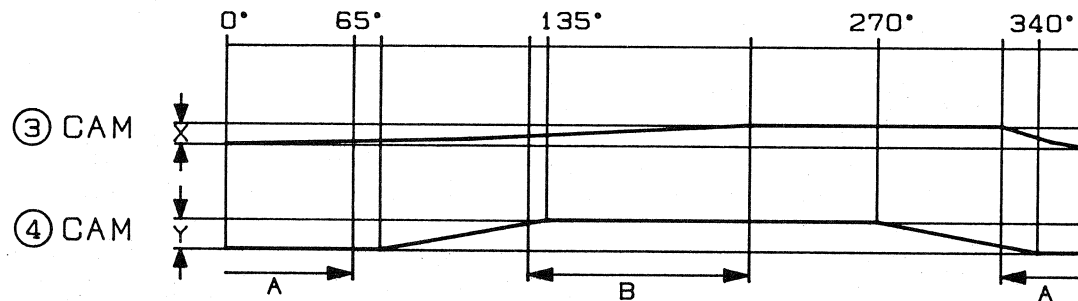

Fig. 6
The relation among claw assy ①, cams ③ and ④, and shutter assy ⑤ is shown in Fig. 6.